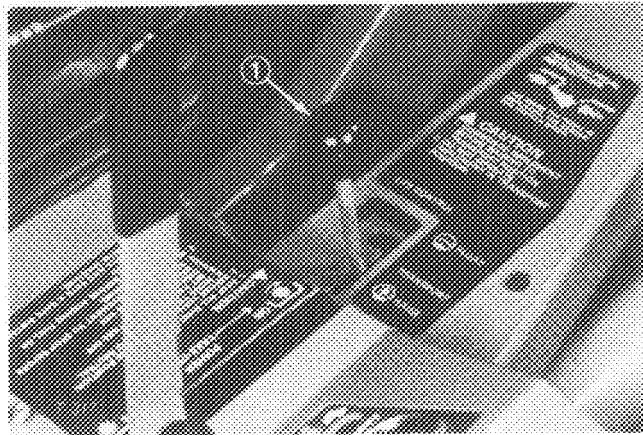
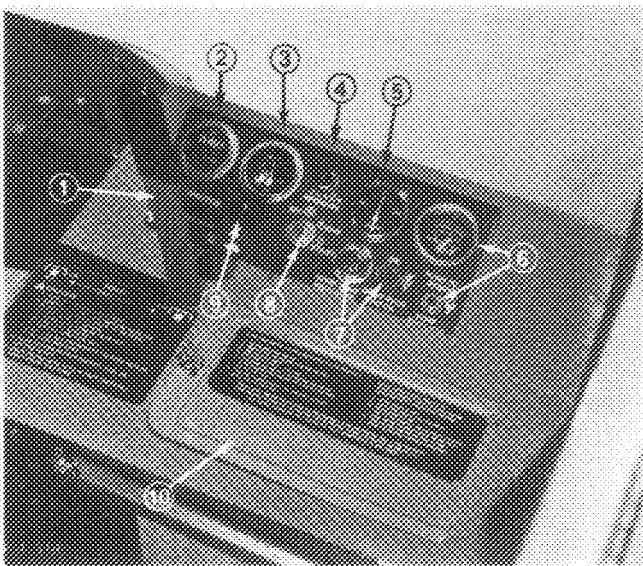

Figure 20
Figure 21
Lift Lever (Fig. 20) — The hydraulic lift lever has three positions: FLOAT, TRANSPORT and RAISE. To lower implement to the ground, move lift lever forward into notch, which is the FLOAT position. The FLOAT position is used for operation and also when machine is not in operation. To raise implement, pull lift lever backward to the RAISE position. After implement is raised, allow lift lever to move to the TRANSPORT position. Normally, implement should be raised when driving from one work area to another, except when descending steep slopes.
PTO Lever (Fig. 21) — The PTO lever has two positions: ON, engage and OFF, disengage. Slowly push PTO lever fully forward to ON position to start the implement or cutting unit blades. Slowly, pull lever backward to OFF position to stop implement operation. The only time PTO lever should be in the ON position is when implement or cutting unit is down in operating position.
Hour Meter (Fig. 21) — The hour meter registers accumulated hours of engine operation. Use the hour meter to determine intervals for service maintenance and lubrication.
Fuel Gauge (Fig. 21) — Indicates quantity of fuel remaining in fuel tank.
Oil Pressure Warning Light (Fig. 21) — The oil pressure warning light will glow and a buzzer will sound when oil pressure in engine drops below a safe level. If low oil pressure ever occurs, stop engine and determine the cause. Repair the damage before starting the engine again.
Ammeter (Fig. 21) — Ammeter shows charge rate of the battery by the alternator. When engine is running, there usually is a slight charge, unless engine is idling slowly. Needle will point to 0 when battery is fully charged. By contrast, alternator is not charging the battery when needle points to (-) negative side of ammeter, and if this happens, repair the charging system to prevent discharge of the battery.
Temperature Switch/Gauge and Reset Button (Fig. 21) — The temperature switch/gauge registers the temperature of the coolant in the cooling system. If temperature of coolant gets too high the engine will shut off automatically. When this happens, rotate ignition key to OFF. Automatic shut-off of the engine usually results from debris on front of screen or radiator, which reduces air flow. After cleaning outside of screen and radiator or repairing some other damage, press the reset button and start the engine.
Glow Plug Switch and Indicator (Fig. 21) — Use to preheat engine cylinders before and during starting procedures. Push switch lever upward and hold while watching indicator. Indicator will glow red when sufficiently heated. Length of time necessary to preheat cylinders should be determined by atmospheric temperature; refer to Starting/Stopping Engine, page 19.
Key Switch (Fig. 21) — The key switch, which is used to start and stop the engine, has three positions: OFF, RUN and START. Rotate key clockwise to the START position to engage starter motor. When engine starts, release key and it will move automatically to the ON position. To shut engine off, rotate key counterclockwise to the OFF position.
Throttle Control (Fig. 21) — Throttle is used to operate engine at various speeds. Moving throttle forward increases engine speed — FAST; backward decreases engine speed — SLOW. The throttle regulates the speed of the cutter blades or other implement components and, in conjunction with traction pedal, controls ground speed of the traction unit.
A 40 amp circuit breaker is also incorporated to protect the entire wiring circuit. A reset button is located on the lower side of the panel, which can be reached after removal of the battery cover (Fig. 21, 23). The button should be depressed if a total loss of all electrical functions should occur. However, the electrical system should first be checked to ascertain the reason for the malfunction; refer to Electrical Troubleshooting, pages 24-29.
1. Ensure parking brake is set, PTO lever is in OFF position (Fig. 21) and lift lever is in TRANSPORT or FLOAT position (Fig. 20). Remove foot from traction pedal and insure it is in neutral.
2. Move throttle control (Fig. 21) to full FAST position.
5. Turn key in key switch to START position (Fig. 21). Release key immediately when engine starts and allow it to return to RUN position. Move throttle control to SLOW position.